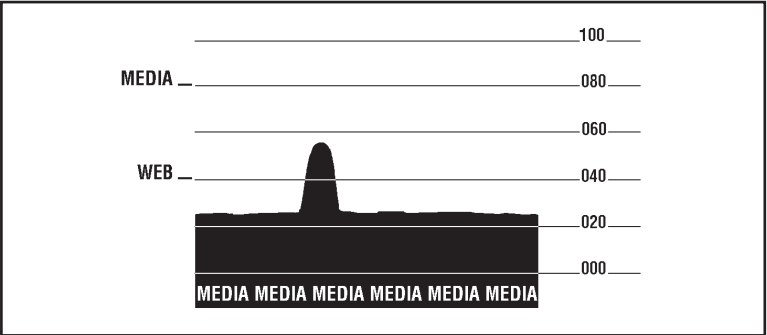

Figure 1. A300 Sample Media Sensor Profile
5. A profile of the media sensor settings is printed on the label. (See the examples in Figures 1 and 2). The printer then saves the new settings in memory and is ready for normal operation.
Inconsistent print quality, such as voids in the bar code or graphics, may indicate a dirty printhead. For best results, perform the cleaning procedures in Table 4. For the location of these printer parts, refer to Figure 1 on page ii.